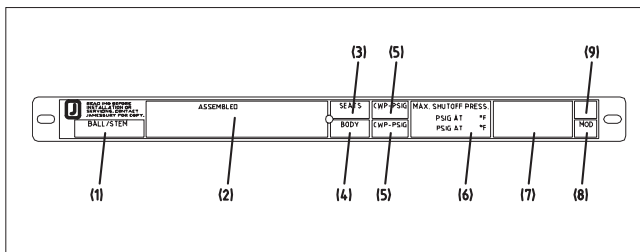

Figure 1. Identification plate
The valve has an identification plate (19) attached to the flange (see **Figure 1**).